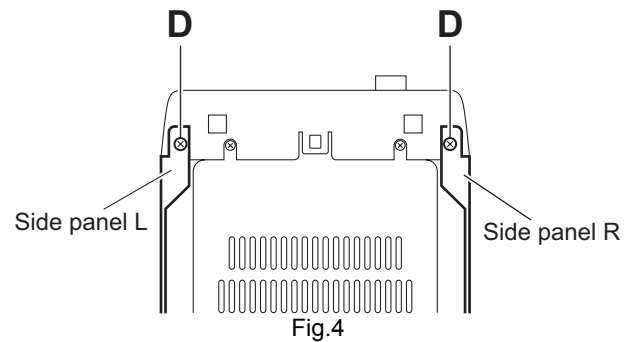

Fig.4
- (3) From the bottom side of the main body, remove the two screws **D** attaching the side panels L/R. (See Fig.4)